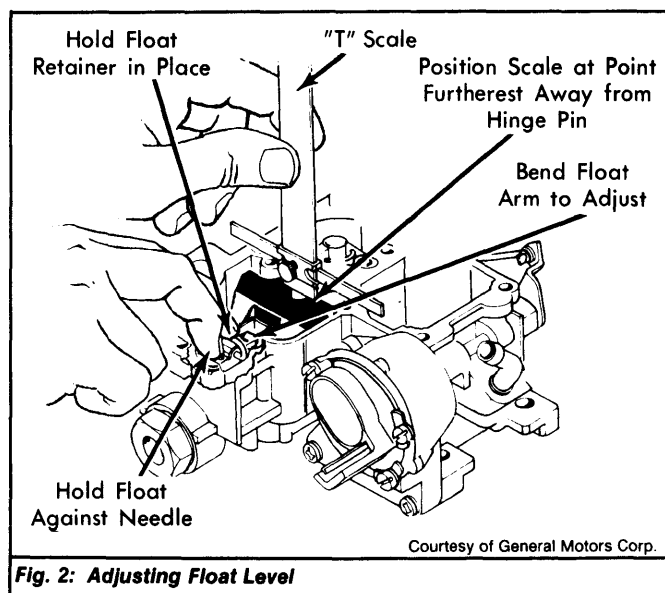

Fig. 2: Adjusting Float Level
- 1) Remove air horn and gasket from float bowl. Hold float retainer firmly down while lightly pushing float down against needle. See Fig. 2.